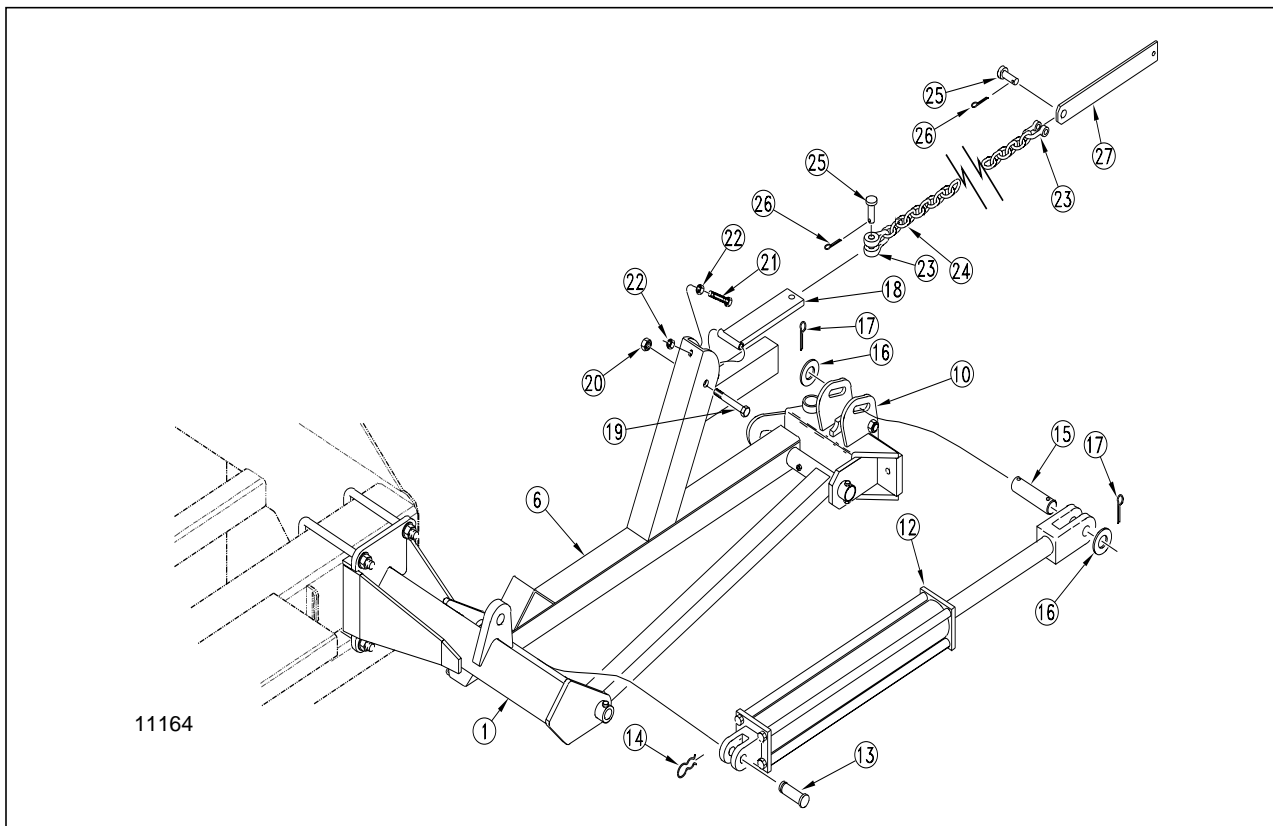

Fig. 2
4. Referring to Fig. 2, pin the base end of the hydraulic cylinder (# 12) to the marker mount (# 1) using the pin and retainer (#13 & 14). Remove the plastic shipping plugs from the cylinder ports, and pull the rod end of the cylinder out to its maximum length. Pin the rod end of the cylinder by working the cylinder pin (# 15) through one slotted ear on the breakaway hinge (# 10), through the cylinder's rod end clevis, and out the other ear on the hinge. The rod end pin is retained by placing the flat washers (# 16) on the outside of the slotted ears, and cotter pins (# 17) through the holes in the pin.
Again referring to Fig. 2, install the chain bar weldment (# 18) on the first section (# 6). The chain bar should pivot freely around the bolt (#19) which is fastened with lock nut (# 20). Directly below the pivot bolt for the chain bar weldment (# 18) is a single hole in which the full threaded adjustment bolt (# 21) is installed. To install, first thread one lock nut (# 22) up the entire threaded length of the bolt. Next, push the bolt with nut through the hole in the mast of the first section (# 6), and complete the assembly by threading a second lock nut (# 22) up the entire remaining length of the full threaded bolt.
1. **LIFTING SLACK.** Start with the marker in the unfolded position. Back the full threaded adjustment bolt Fig. 2 on page 1-4 (#21) down until the head extends as little as possible. Slowly fold the marker, observing the motion of the disk. If the marker disk slides across the ground more than about one foot before the chain and linkage lifts it up, the chain is too slack. Tighten the chain by moving the clevis one or two links at the inboard end of the chain. Recheck by repeating step 1.
2. **FOLDED SLACK.** After the adjustments in step one have been completed, fold the marker(s). The full threaded adjustment bolt Fig. 2 on page 1-4 (#21) is provided to take the slack out of the chain while the marker is in the folded position. Extend this bolt until the slack is out of the chain. Lock the bolt in this position by tightening the nuts on either side of the upright channel on section 1.